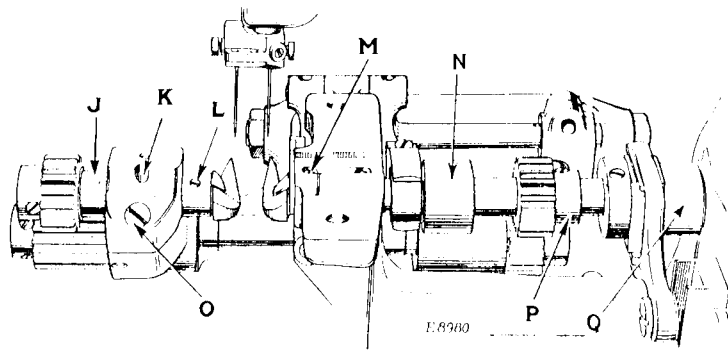

FIG. 6. ADJUSTMENTS UNDERNEATH THE BED PLATE
To change the position of the left-hand looper, loosen the two set screws in the gear collar (P, Fig. 6) and turn this gear until the looper is in the correct position, then tighten the set screws.
(SEE FIG. 6)
If it is necessary to time the feed, loosen the two set screws in the feed eccentric (Q, Fig. 6), also the two set screws in the feed lifting eccentric (N, Fig. 6). Hold the balance wheel with the needle bar at its lowest point, and turn the feed eccentric (Q) so that one set screw is at the top of the eccentric and the other is toward you. In this position the set screw which is toward you will be opposite a flat on the looper shaft. Tighten this screw against the flat, then tighten the screw at the top of the eccentric. Then set the feed lifting eccentric (N, Fig. 6) in exactly the same manner.